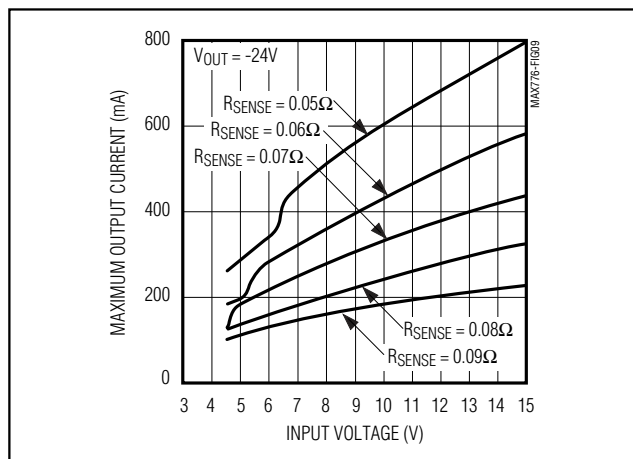

Figure 9. MAX774/MAX775/MAX776 Maximum Output Current vs. Input Voltage ( $V_{OUT} = -24V$ )
- 2) Next, referring to Figure 9, find the curve with the lowest current limit whose output current (with the lowest input voltage) meets your requirements.
The  $R_{SENSE} = 80m\Omega$  (Figure 9) shows only approximately 125mA of output current with a 4V input, so we look next at the  $R_{SENSE} = 70m\Omega$  line. It shows  $I_{OUT} >150mA$  for  $V_+ = 4V$  and  $V_{OUT} = -24V$ . The current limit will be  $0.210V / 0.070\Omega = 3A$ . These curves take into account worst-case inductor ( $\pm 10\%$ ) and current-sense trip levels, but not sense-resistor tolerance. The switch on resistance is  $70m\Omega$ .